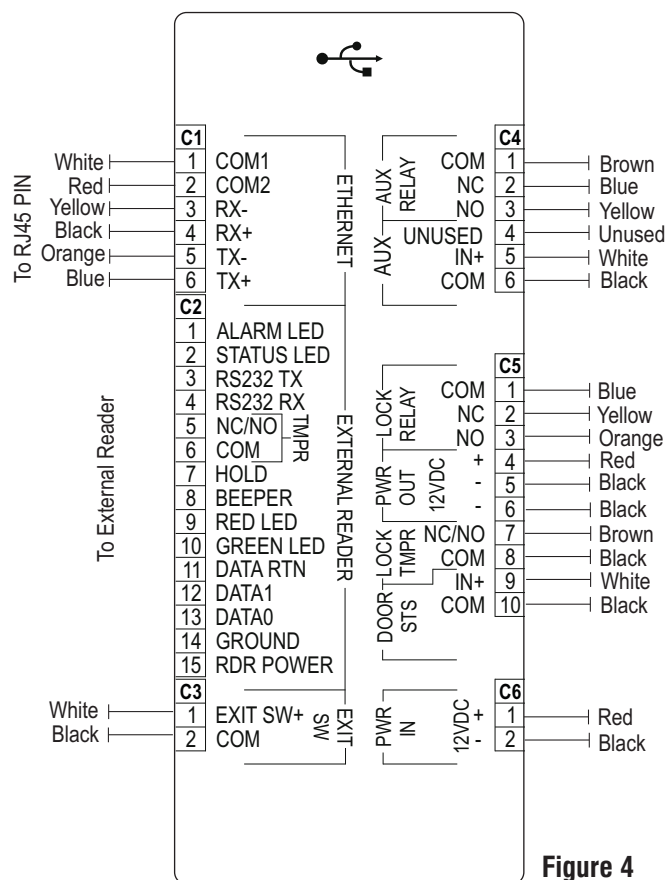

Figure 4
- Refer the wire color code mapping for the terminals (figure 4).